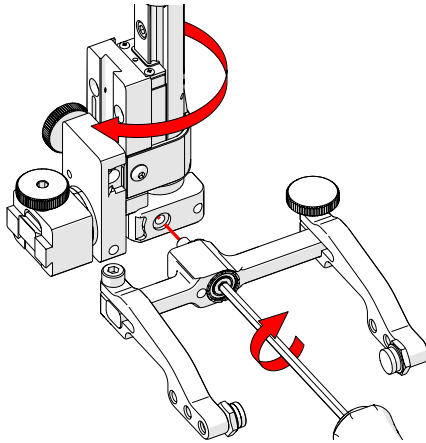

Fig. 125 - Screw yoke to opposite side
6. Mount the yoke to the opposite side of the base using the supplied 3 mm hex driver (Fig. 125).